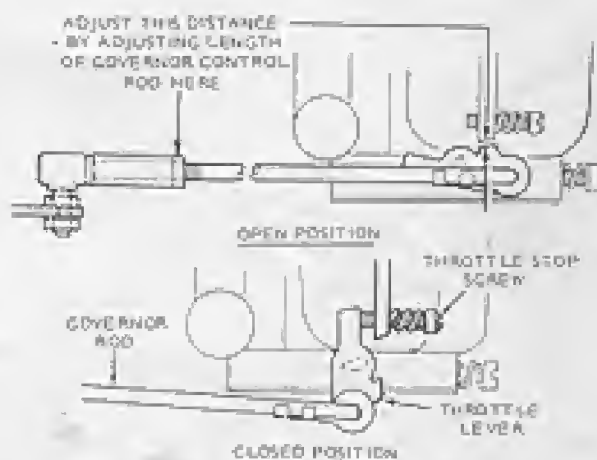

FIGURE 12. THROTTLE STOP SCREW SETTING
The throttle stop screw is located on the base of the carburetor (opposite side from main power adjustment needle) near the crankcase breather valve. It must be adjusted to obtain 56 hertz at no load with the throttle closed as far as possible (throttle shaft lever touching adjustment screw). See Figure 12.
**Linkage:** The engine starts at wide open throttle. The length of the linkage connecting the governor arm to the throttle shaft assembly is adjusted by rotating the ball joint. Adjust this length so that with the engine stopped and tension on the governor spring, the stop on the throttle shaft assembly almost touches the throttle stop screw housing on side of carburetor (one more turn of governor ball joint would allow throttle shaft linkage to rest against stop screw housing). See Figure 12.